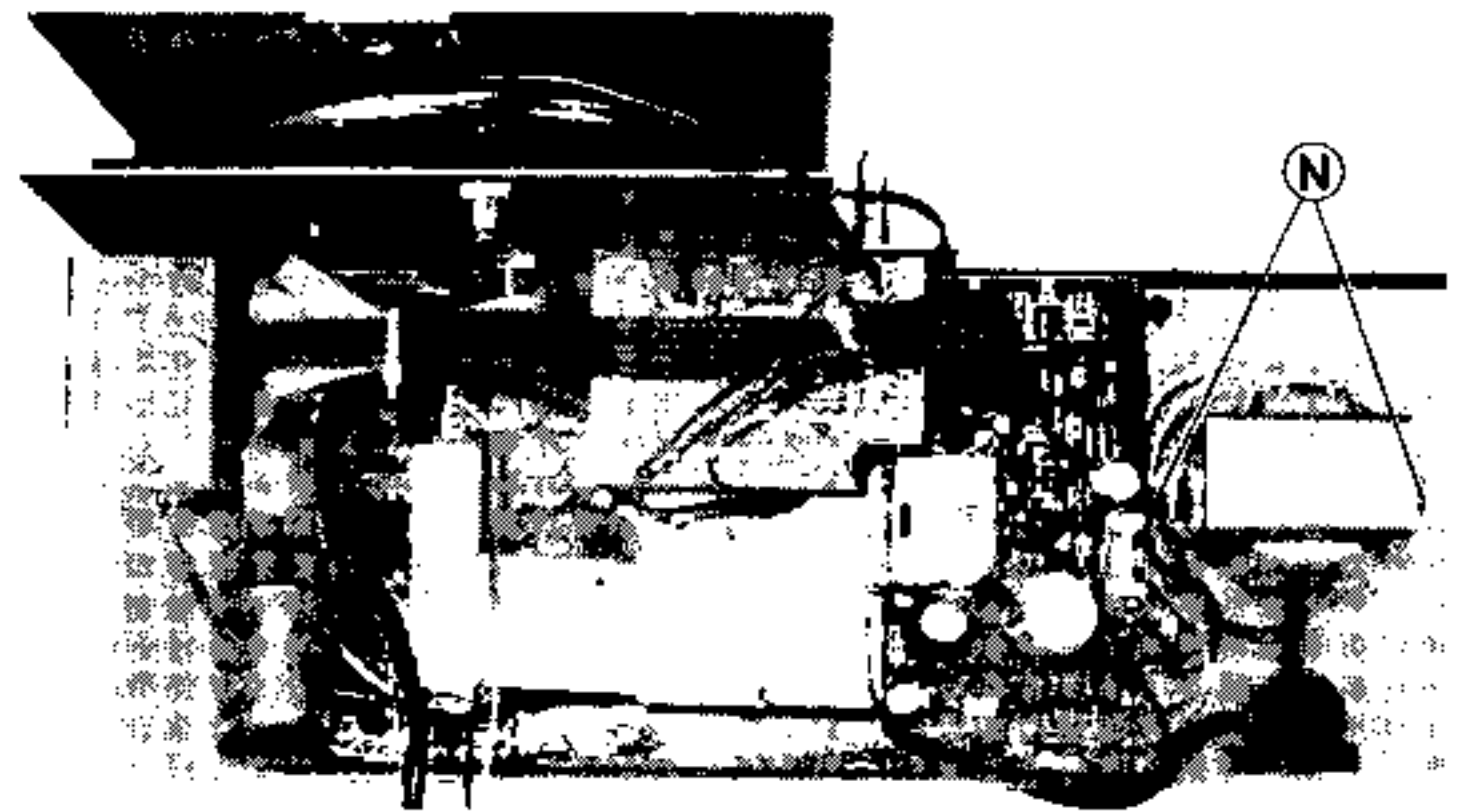

Fig.11
- 2 Schrauben (N) (Fig.11) herausschrauben.
- Undo 2 screws (N) (Fig.11).